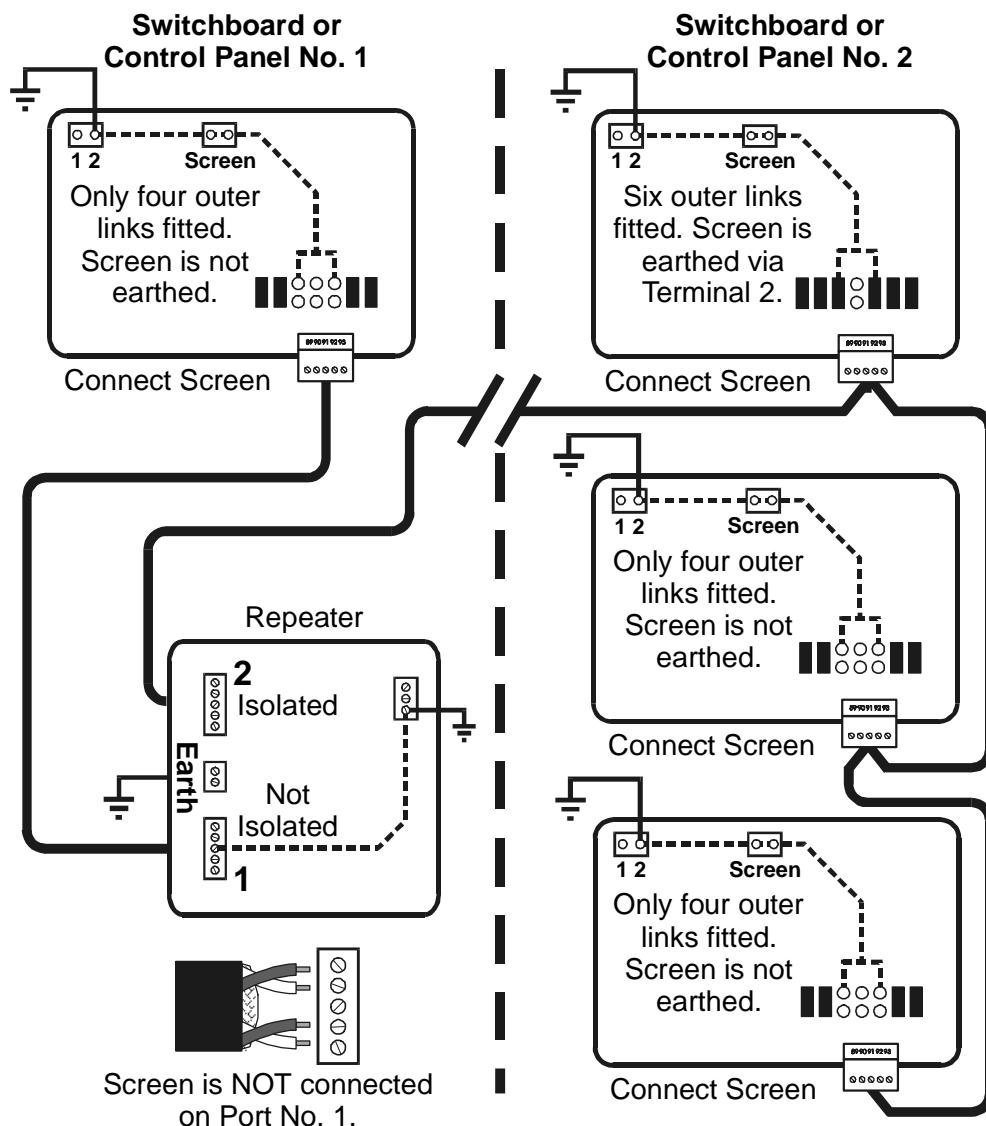

Figure A-21. Use of GENII RPTR Repeater Module, Circuit 1.
**A-4.2.11. Genesis II Comms. Isolated by Repeater.** A GENII RPTR Repeater Module provides electrical isolation for all data conductors and for the screen of the Comms cable connected to Port 2 (Figure A-21). Therefore, Port 2 must be used to connect the Comms cable going to the remote devices. The screen of the cable connected to Port 2 should be earthed at a device in Control Panel No. 2. Preferably, the earthing point should be at the first device that the cable connects to in Control Panel No. 2.